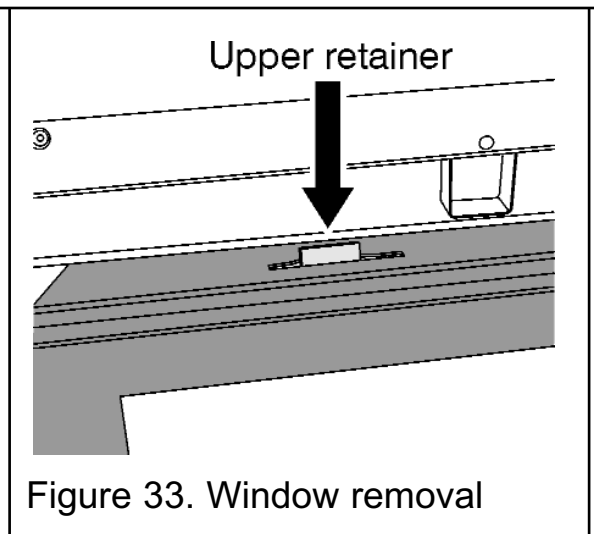

Figure 33. Window removal
3. With both clamps released, gently pull the base of the window panel forward. Hold the window panel base and lift upward until clear of the two upper window retainers (See figure 33).